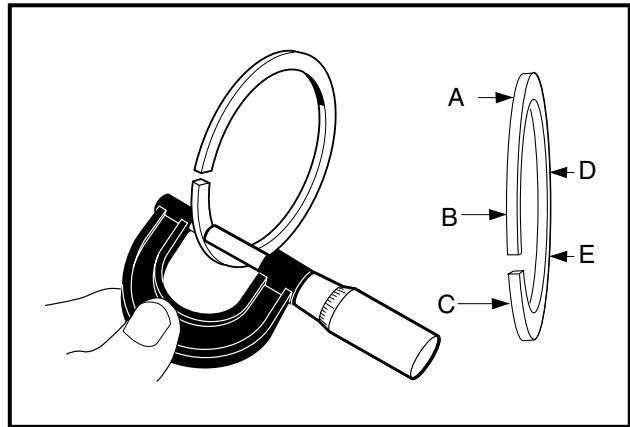

Figure 13-55 Measure Piston Ring Thickness
4. Using a micrometer, measure the thickness of both piston rings at several points around the rings (**Figure 13-55, Page 13-28**).